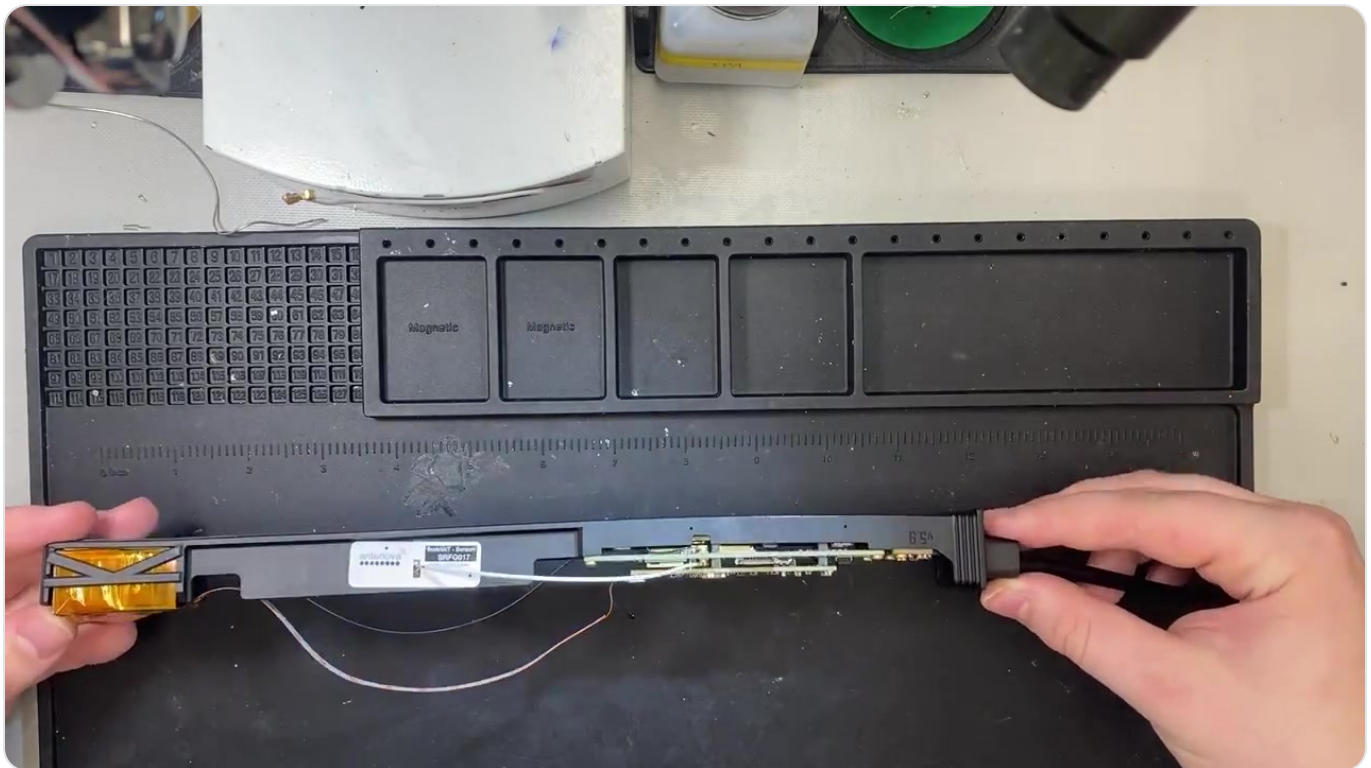

Figure 13. *Magpie assembly walkthrough. Watch in the online guide →*
4. Connect the ECU to the charge protector board's flex cable; it should sit on the taped area. Tuck the external GPS adapter cable (black) underneath the ECU. Refer to Figure 13 for ECU orientation.